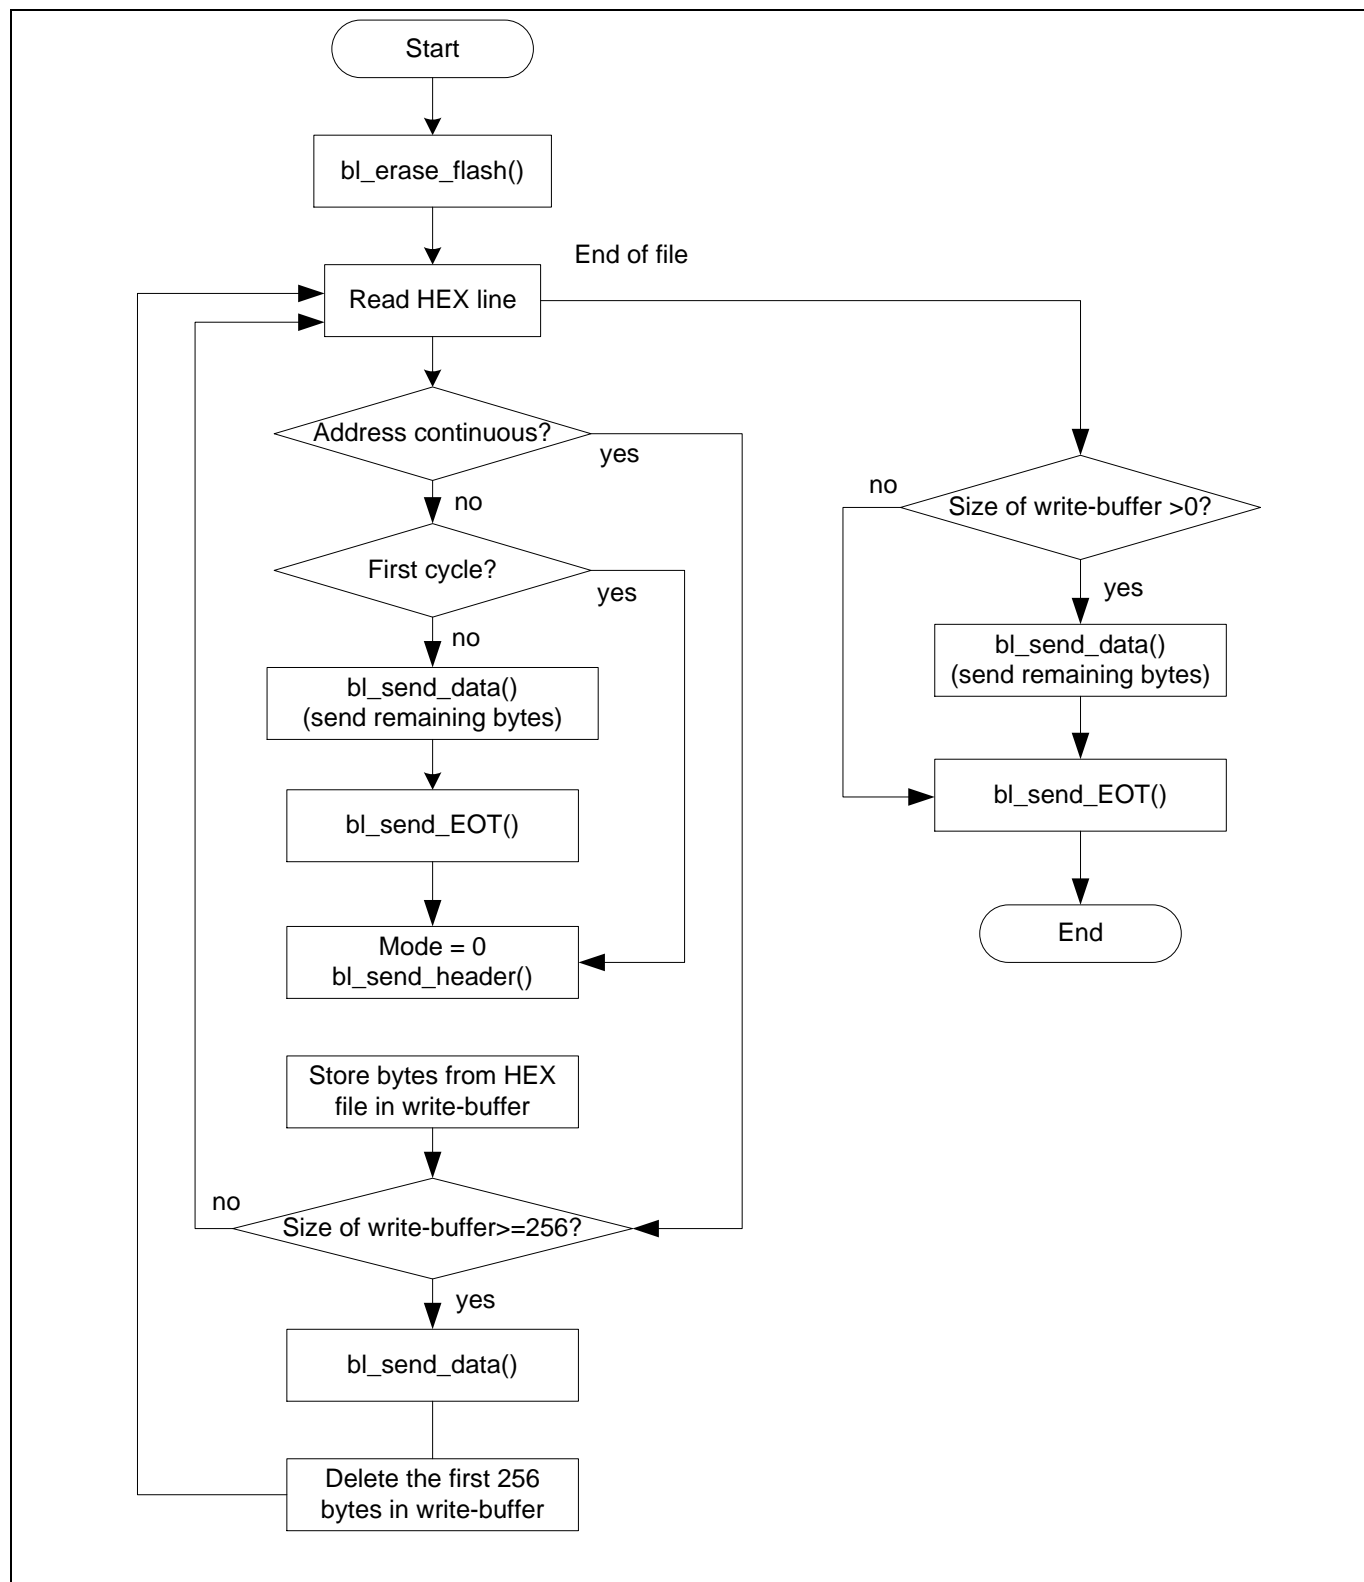

Figure 8 Flash programming procedure implemented in bl\_download\_flash()
- The flash programming procedure is implemented in `bl_download_flash()` shown in Figure 8.